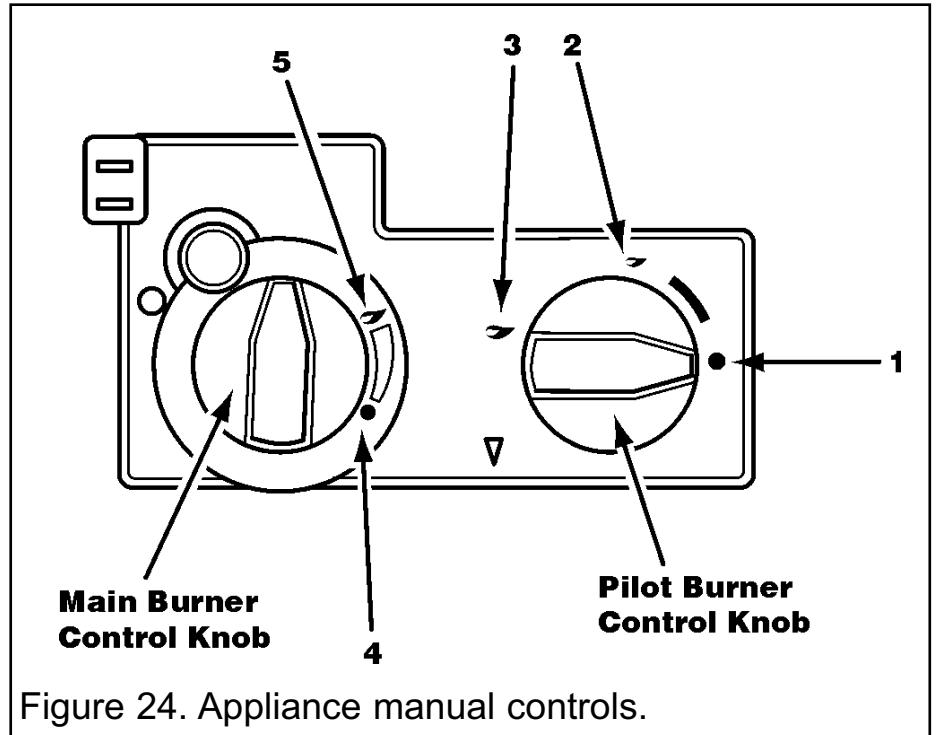

Figure 24. Appliance manual controls.
1. Ensure that the pilot burner control knob is in the OFF position (1 in figure 24).
2. Depress the pilot burner control knob and turn slowly anti-clockwise to the ignition position (2 in figure 24) to activate the piezo ignition system. A 'click' will be heard and the pilot should light. If the pilot does not light immediately, repeat the above procedure, keeping the knob depressed for several seconds in order to purge any air from the system.
1. Once the pilot light is established, light the main burner by turning the pilot burner control knob anti-clockwise to the "main burner on" position (3 in figure 24), and by then turning the main burner control knob to the high position (5 in figure 24).
2. Check the full range of heat settings by turning the main burner control knob slowly between the high position and the low position (4 in figure 24).
Turn the main burner control knob fully clockwise. Alternatively turn the pilot burner control knob clockwise to the ignition position (2). Refer to figure 24.
Rotate the pilot/burner control knob clockwise to position 1, as shown in figure 24.
3. In order to disable the handset, but still leave the pilot alight, turn the pilot burner control knob to the ignition position (2 in figure 24).
4. Turn the fire off by rotating the pilot burner control knob to the OFF position (1 in figure 24).